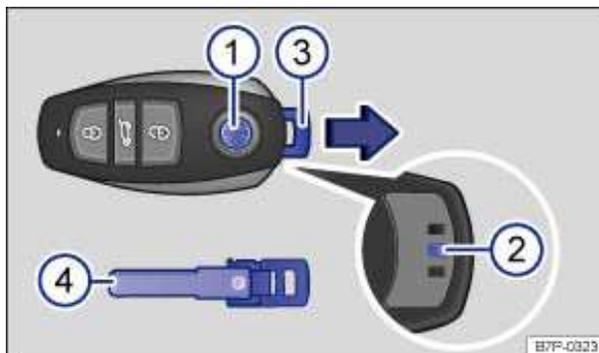
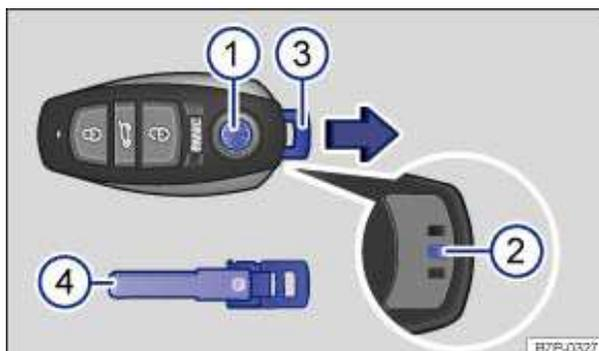

Fig. 18 Releasing the emergency key and removing it from the remote control vehicle key.
Fig. 19 Releasing the emergency key and removing it from a remote control vehicle key with a panic button.
- With one hand, press and hold button (1) ⇒ fig. 18 or ⇒ fig. 19.
- With the other hand, press the locking catch (2) under the emergency key (4) while pulling the key out in the direction of the arrow.